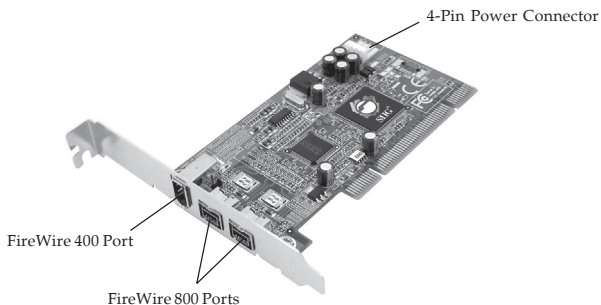

Figure 1: Board Layout
4. Connect an available 4-pin power connector from the system power supply to the 4-pin power connector on the *FireWire 800 32-bit PCI* board (See **Figure 1** on page 3). This connection is recommended for consistent power output from the FireWire port.